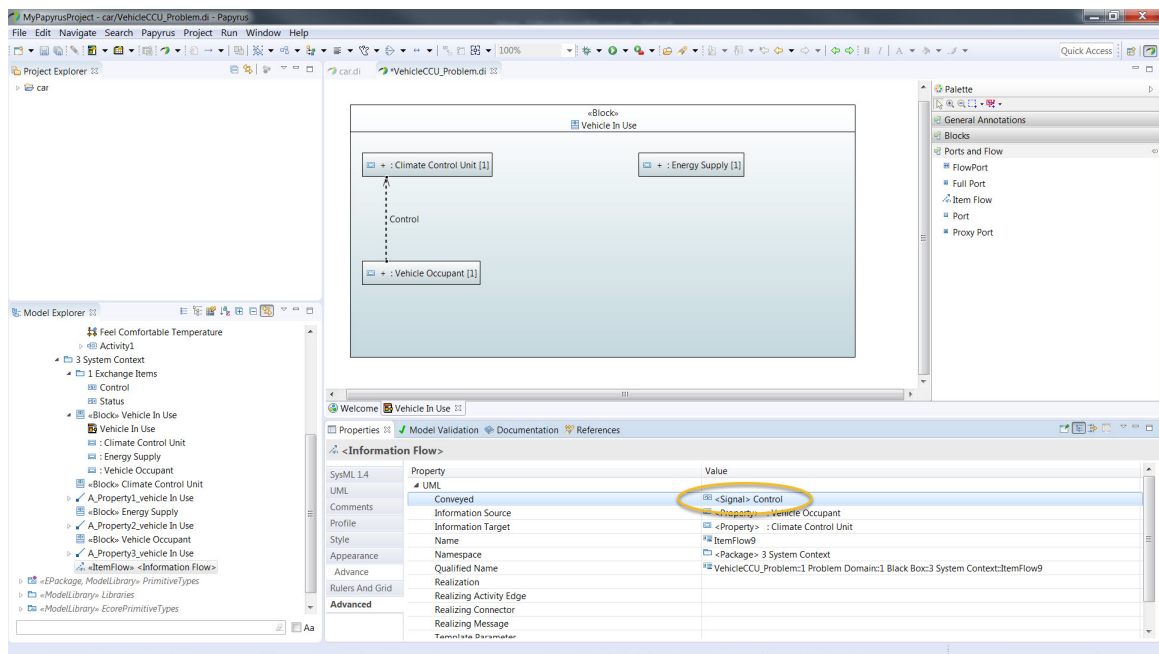
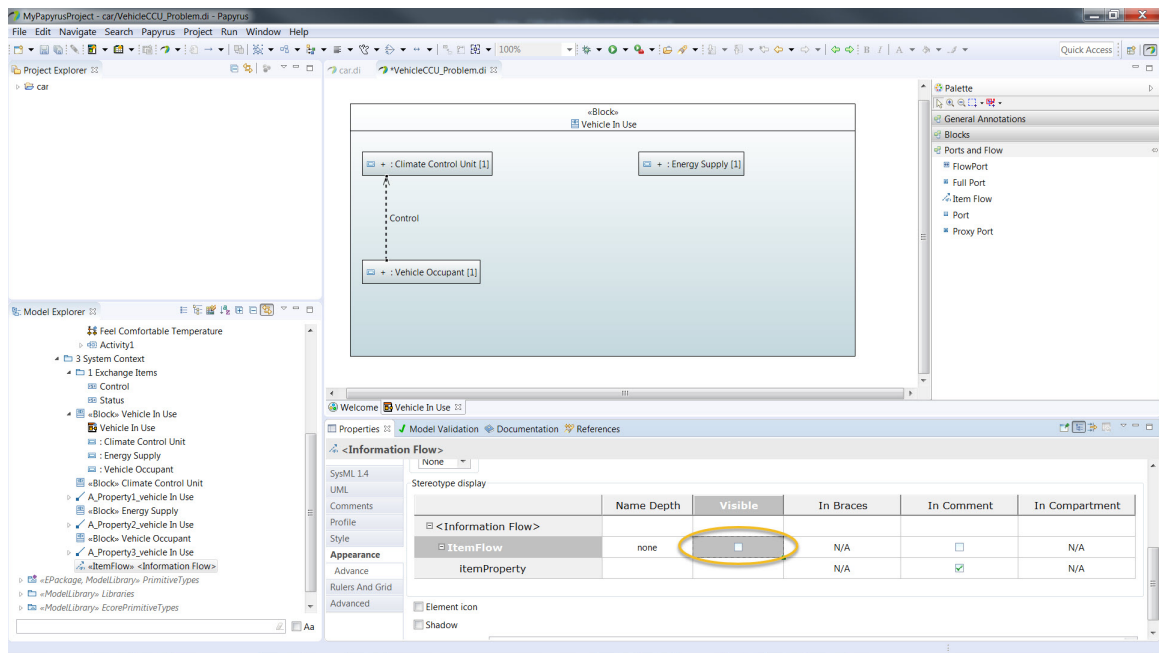

Figure 68: Conveying the *Control* Signal
Figure 69: Item Flow Visibility
7. Notice that the value of the **Conveyed** property now shows our *Control* signal (figure 68) and it appears on our item flow in the internal block diagram. Note that to eliminate the other labels you can go the **Appearance** tab and uncheck the item at the intersection of **ItemFlow** and **Visible** (figure 69).